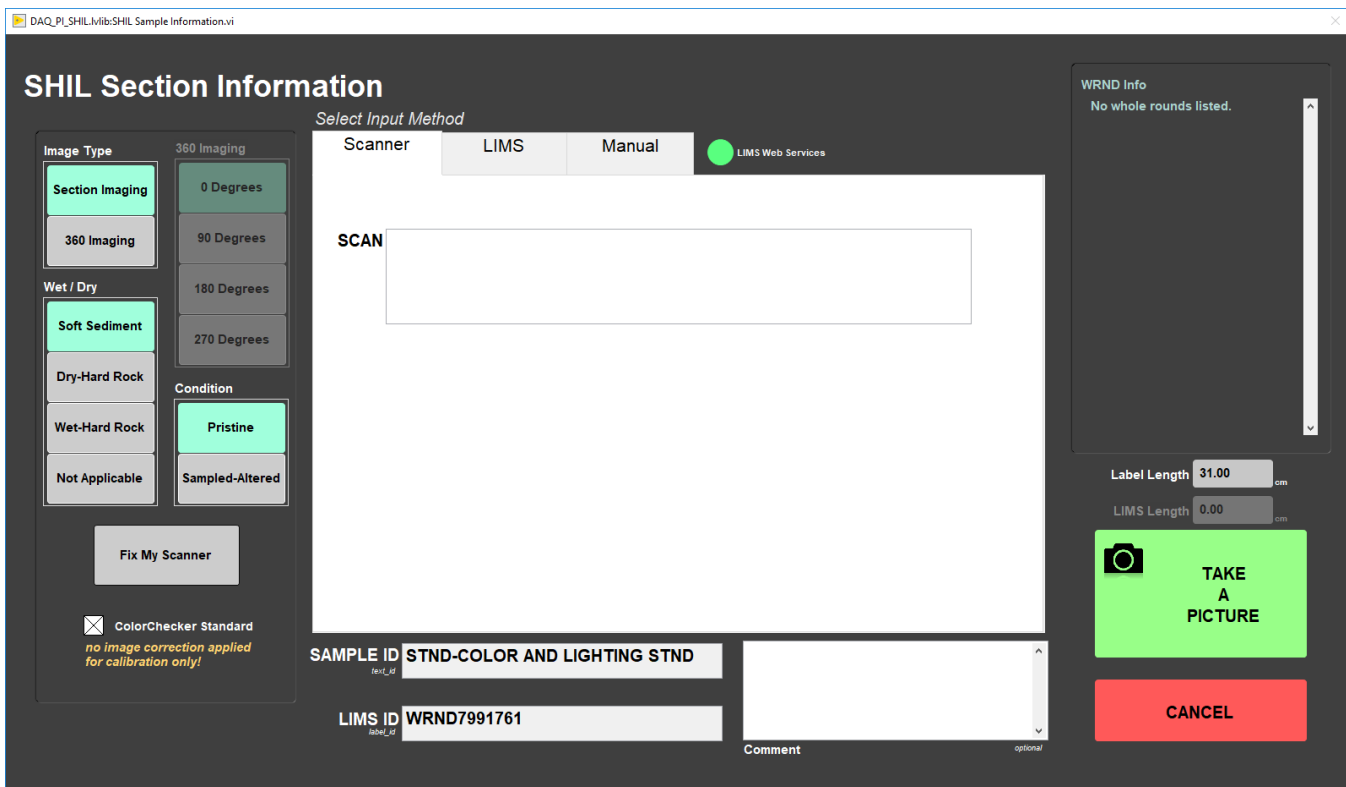

Figure 31. Color Checker Standard box selected
3. Check the **ColorChecker Standard** box in the lower left corner (Figure 31). This produces a raw TIFF image without corrections applied.